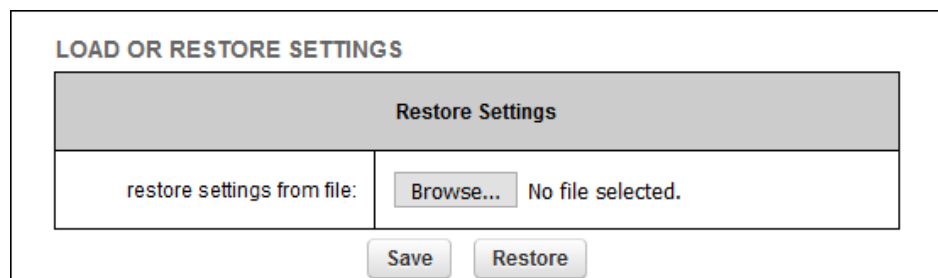

Figure 53. Configurator GUI (LOAD OR RESTORE SETTINGS dialog)
- The **LOAD OR RESTORE SETTINGS** dialog will be shown (Figure 53 \(page 104\)).